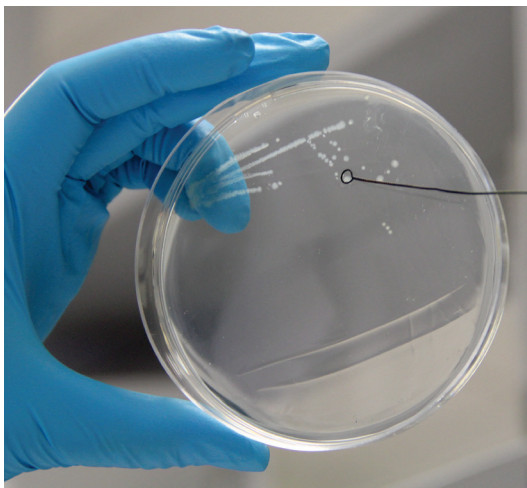

Fig. 12
12. Using the sterilised inoculating loop, transfer two *E. coli* colonies to each of the micro-centrifuge tubes (Figs. 12 and 13). Flame-sterilise the loop after each use.